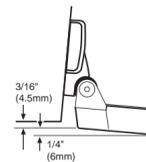

Figure 8
- First, adjust the pivot angle of the transducer body, so its length is parallel with the length of hull of the boat. Then pivot the transducer down so the rear is about 1/4 inch (6mm) lower than the front (Figure 8).
- Adjust the vertical position so that the transducer body is 3/16" (4.5mm) beneath the hull of the boat (Figure 8). Mark the position of the mounting bracket on the transom with a pencil.